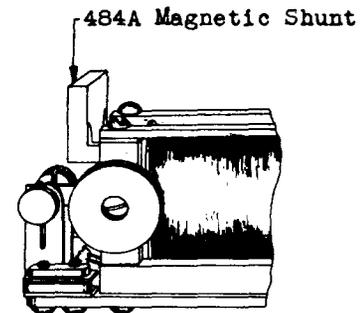

FIG. 6
(1) If the tips of the flexible contact springs do not rest against each other properly, remove the relay from the connecting block. Remove the cover screws using the 3" cabinet screwdriver and then remove the cover.
(2) Place the 484A magnetic shunt across the front end of the yoke directly above the pole-piece as shown in FIG.6. Back off the contact screws equally to give about .012" contact travel. Use the 340 adjusting key.
(3) Check that the flexible springs rest against each other in line with the armature with a pressure of 20 to 70 grams, measured at the contact of one spring with the other spring held so that it cannot follow its mate. Use the 70E gauge to measure the tension and hold the other spring with the flat end of the KS-6320 orange stick. If the springs do not have the proper tension replace the armature as covered in (4).
(4) Loosen the screws holding the armature to its support using the 3" cabinet screwdriver. Remove the armature. Insert the replacing armature, positioning
cover. Insert the relay in the connecting block of the testing equipment and place the 484A magnetic shunt across the front end of the yoke directly above the pole-piece as shown in Fig. 6. This should result in freeing the armature from magnetic influence sufficiently to cause it to assume a position approximately midway between the pole-piece screws provided the contact screws do not interfere. Connect battery to the contacts by means of the testing equipment. If the armature rests against either contact under this condition, back off the contact screw until it clears the armature.
(7) Remove the cover screws with the 3" cabinet screwdriver and remove the cover. With the relay inserted in the connecting block of the testing equipment, loosen the tension nuts and back off the pole-piece screws as far as possible with the KS-6854 screwdriver or 340 adjusting key. The knurled tension nut should be set so that the pole-piece screw may be adjusted without changing the position of the knurled tension nut. Place the 484A magnetic shunt across the front end of the yoke directly above the pole-pieces as shown in Fig. 6.
(8) Connect battery to the contacts of the relay with the testing equipment. Remove the .005" blade from the 74D thickness gauge nest and place it between the front ends of the flexible contact springs. Allow the gauge to be held in position by the tension of the springs. Turn in one contact screw until it just touches the armature contact as indicated by the testing equipment. Then back off the contact screw until it just breaks with the armature contact. Repeat this operation with the other contact screw. Remove the gauge from between the flexible contact springs and remove the magnetic shunt.
(9) Bias - Adjust the tension nuts as covered in 3.08. To adjust the relay for zero bias turn one pole-piece screw in with the 340 adjusting key or KS-6854 screwdriver until it strikes the armature and moves the armature sufficiently to just rest against the contact screw on the side opposite to that on which the pole-piece is being advanced. Then back off the pole-piece screw 1/2 turn. Turn in the other pole-piece screw until the relay meets the bias requirement. Check that the sensitivity requirement is met.
(10) Sensitivity - If the relay fails to meet the sensitivity requirement, adjust the pole-piece screws with the 340 adjusting key, taking care to maintain zero bias, until the sensitivity require-